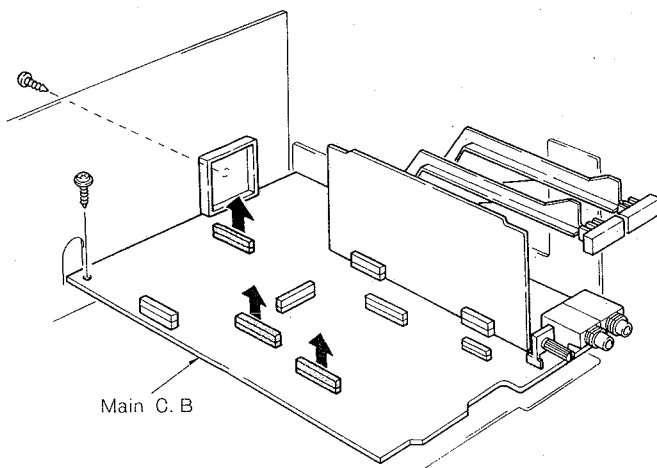

Fig. 2
- 1) Disconnect the 3 connectors and remove the 2 screws. (See Figure 2)